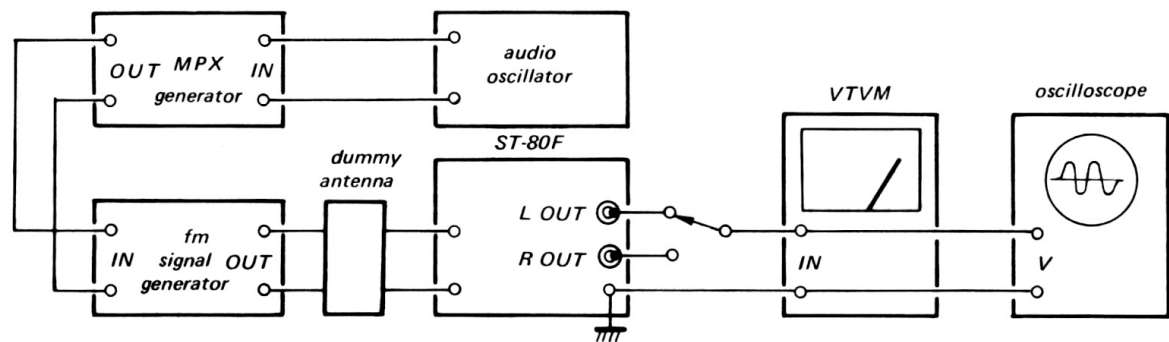

Fig. 5-13. Fm stereo separation adjustment test setup
1. Connect the equipment as shown in Fig. 5-13.
- (a) With the equipment connected as shown in Fig. 5-13, set the MPX stereo generator controls as follows: